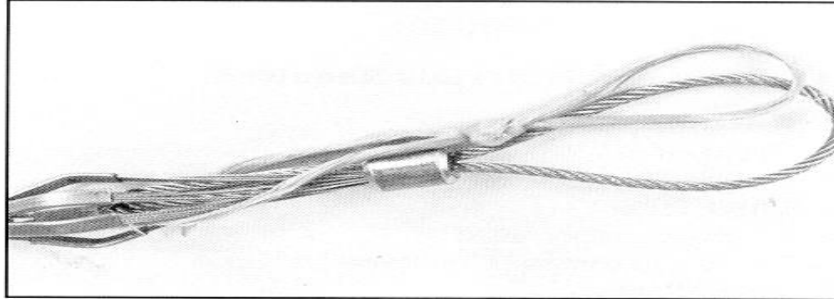

Figure 6
- Secure the yarns to the inner loop of the pulling grip using a square or bowknot. The yarn should be the same length as the pulling grip to insure that pulling forces are equally distributed. (Figure 6)